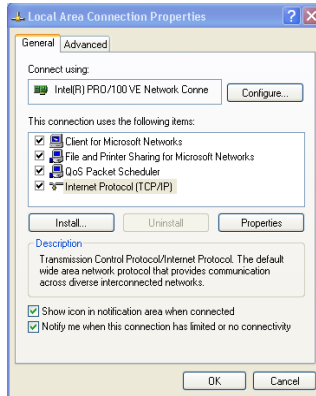

Figure 4: Local Area Connection Properties Window
6. Select the Internet Protocol (TCP/IP) and click the **Properties** Button (see Figure 4).